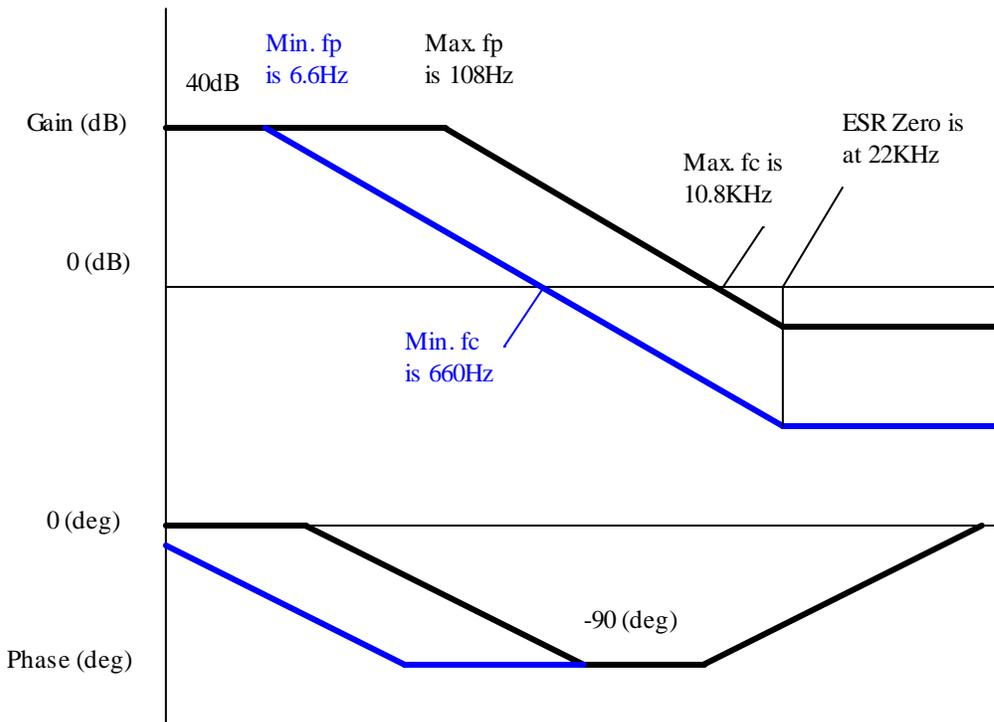

Figure 3- Design example Control-to-output transfer function, gain/phase corresponding to  $V_{IN}=7V$  and  $I_o=50mA$  are shown in blue.
6- Use a low ESR 100uF, 50V Aluminum electrolytic (ex., Sanyo 50MV1000WX). The low ESR helps maximize the “Zero” frequency (see figure 3). Use a 3.3uF ceramic in parallel to help reduce output ripple.
Using the procedure outlined in appendix 1, the control-to-output transfer function is calculated and plotted in figure 3. Using an Error Amplifier (EA) with type II compensation as shown in figure 4, it is desirable to increase the cross-over frequency  $f_c$  shown in figure 3 to a maximum of 1/5 of switching frequency  $f_s$ . In this example, however,  $f_c$  cannot be increased due to the ESR zero. In order to leave  $f_c$  unchanged, compensation should have a gain of 0dB, hence  $R_Z=R_1=51.1K\Omega$ . Place compensator “Zero” at Max  $f_p=108Hz$ . Since  $R_Z$  is already set at 51.1K $\Omega$ , then  $C_Z=28nF$  (use 27nF). Set the compensator pole at a sufficiently low frequency to obtain good noise attenuation at the given switching frequency. For example, in order to obtain a 20dB attenuation at 600kHz, set the pole frequency to 60KHz. Solving for  $C_P$ , we get  $C_P=52pF$  (use 56pF).